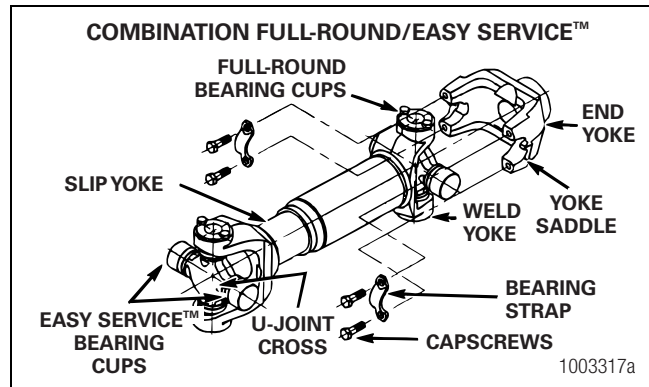

Figure 4.22
1. Check the driveline for looseness. If loose, service the driveline as necessary. Figure 4.22.